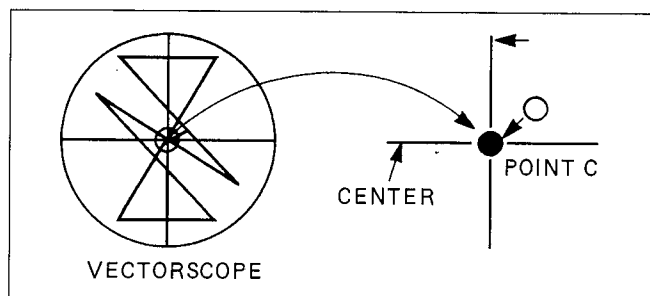

Figure E28
SPEC.	FIG. E28
1. Connect the vectorscope to VIDEO OUT and adjust VR8807 and VR8808 so that the point "C" becomes center of the vector scope as shown in Figure E28.